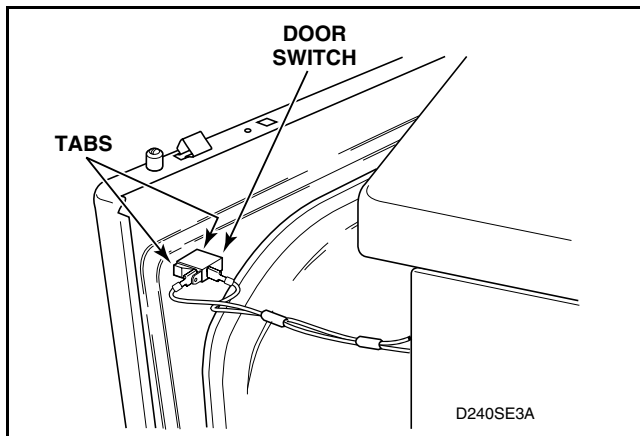

Figure 12
1. Disconnect wires from door switch. Refer to *Figure 12*.
- k. Disconnect wires from door switch. Refer to *Figure 12*.
- l. Disconnect wires from door switch. Refer to *Figure 12*.